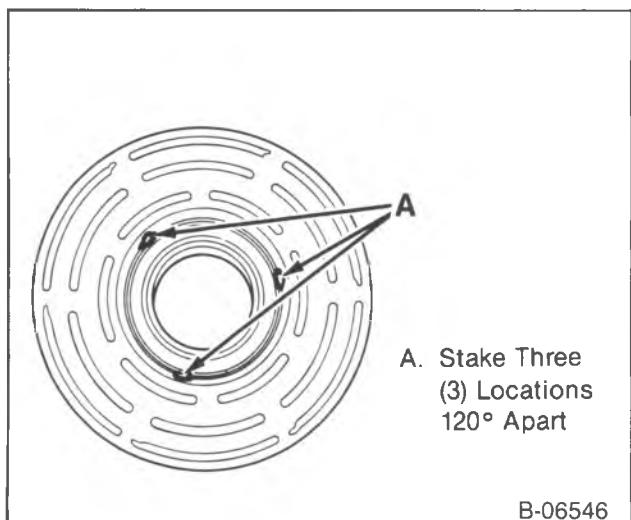
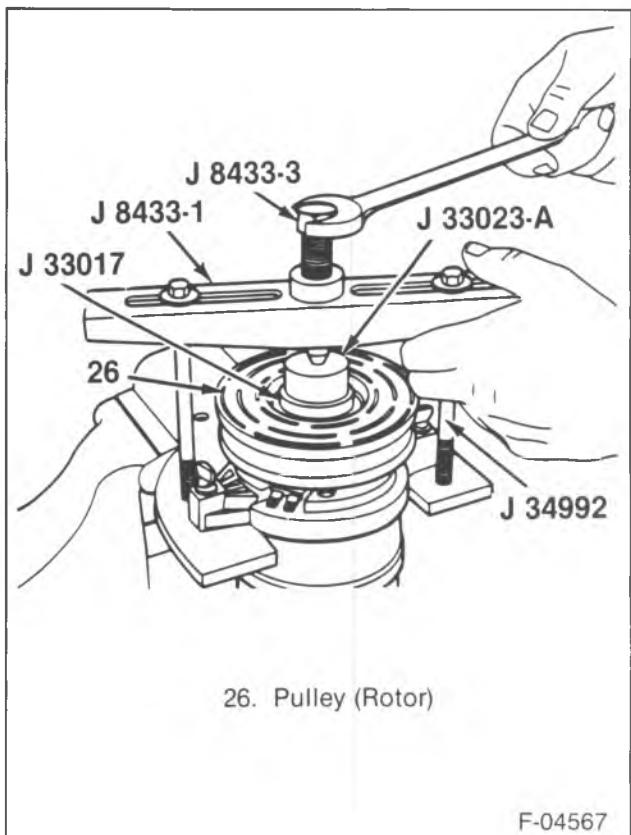

Figure 15—Bearing Stake Locations
Figure 16—Installing the Pulley Bearing Assembly
- Stake 3 places 120 degrees apart (figure 15).
3. Pulley (26) on the front head.
- Position J 33017 and J 33023 over the inner race of the bearing (figure 16).
- Position J 8433-1 on J 33023 and assemble the through bolts and washers through the puller bar slots and thread them into J 33026 (figure 16).